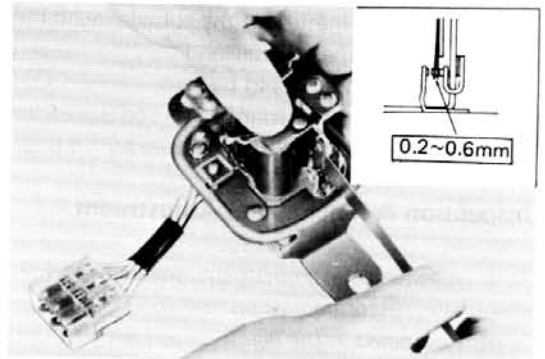

Fig. 5-36 Checking Spring Deflection
3. Press the armature, and check the contact spring deflection with the feeler gauge. Refer to Fig. 5-36. This deflection should be 0.2 to 0.6 mm.